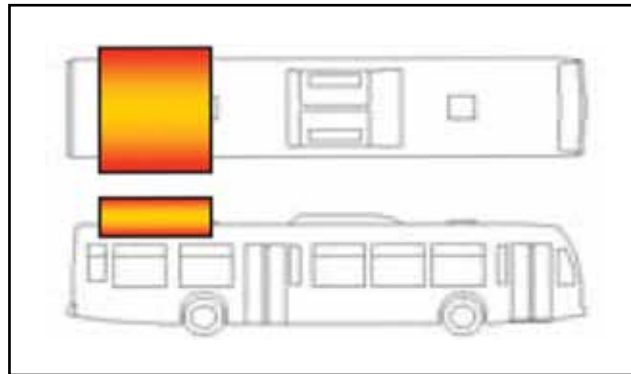

Figure 1 - Location of the Removable Canopy
1.1. Locate the removable canopy at the rear of the vehicle. See Figure 1.